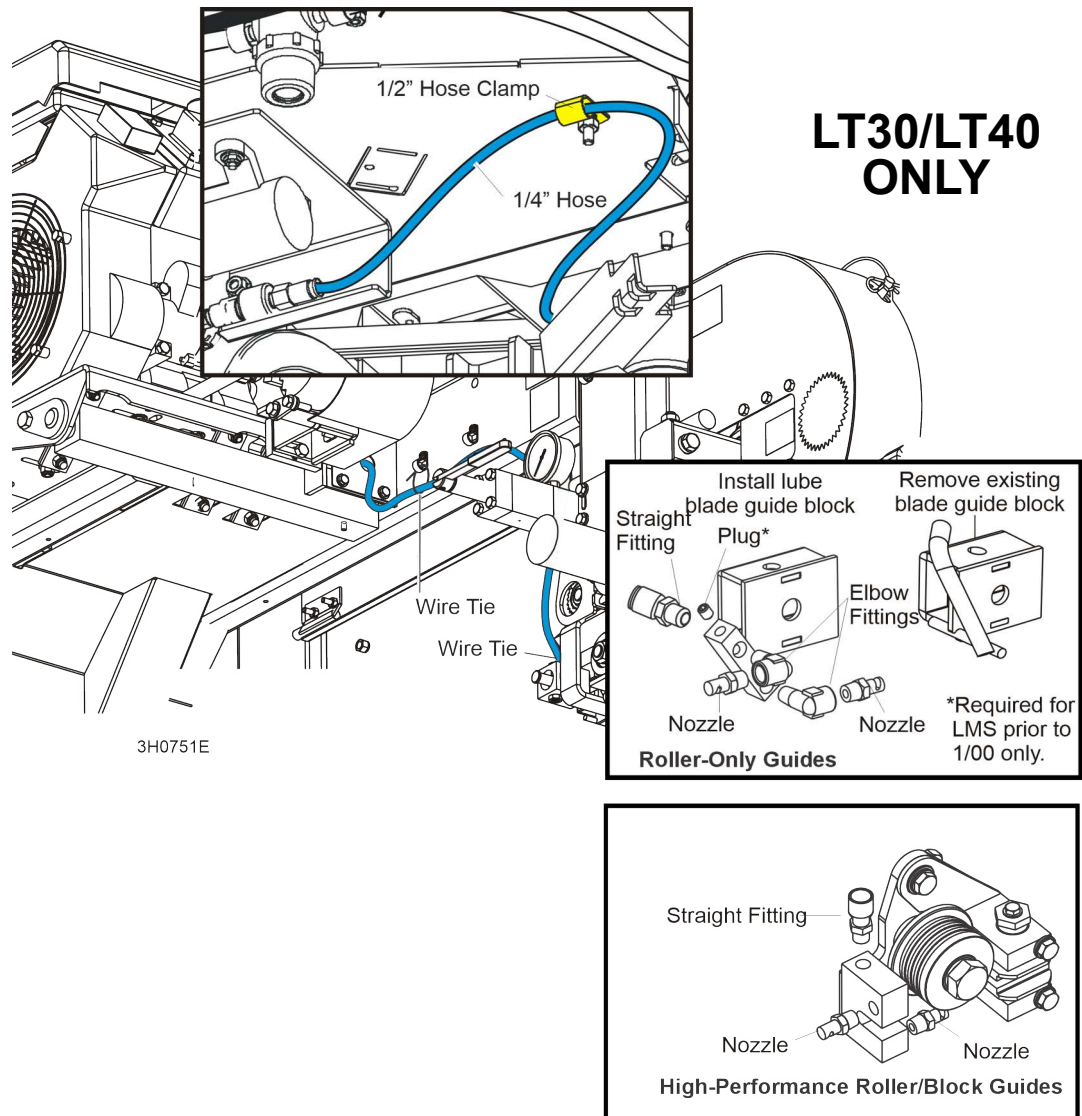

FIG. 1-6 REVISION A.01+
8. Locate the provided 1/4" hose. Insert one end to the pump valve as shown in FIG. 1-6.